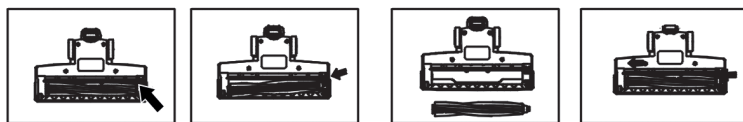

Fig. 2
- Press the release (12 or 5) and remove the brush tool (9).
- Press the release (21) and push out the brush tool shaft (20), see Fig. 2. Clean the brush tool shaft. It is best to use scissors to cut the hair entangled in the brush tool shaft.
- Clean the brush tool (9) with a soft cloth slightly damp with water and a little of dishwashing soap.
- After cleaning, install the brush tool shaft (20) in the motorized brush tool (9) and secure it by engaging the release (21), see Fig. 2.